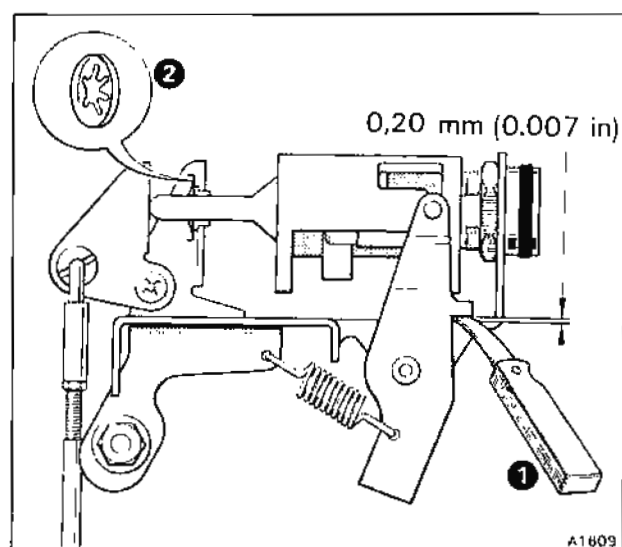

Fig. S7-5 Setting the lock actuator
10. With the actuator in the unlocked position, place a 0,20 mm (0.007 in) feeler gauge between the release lever stops and the lock mounting bracket (see fig. S7-5, item 1). Locate the Starlock washer (item 2) over the actuator spigot and push it firmly up to the bush in the guide bracket. Remove the feeler gauge.